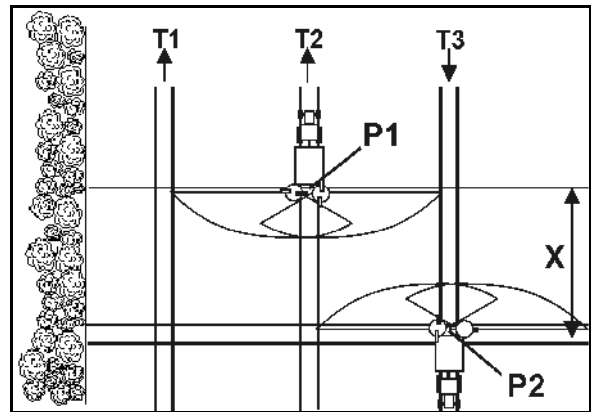

Fig. 76
- Open the slide gate after entering the tramline at point P1 (Fig. 76), when the spreader discs are at distance X from the tramline of the headland.
- Close the slide gate before leaving the tramline at point P2 (Fig. 76), when the spreader discs are located at the level of the first tramline of the headland.